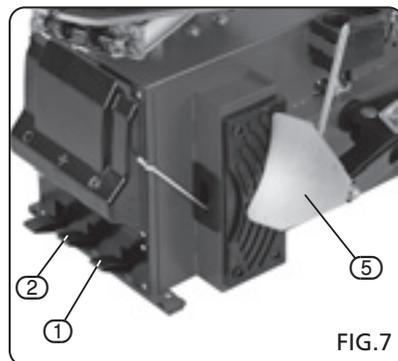

FIG.7
9.2 BEAD BREAKING (FIG.7).
9.3 UNMOUNTING (FIGS.7, 8 – 9).
- Lower the locking lever (9) to unlock the vertical rod (8.1).
- Press the open/close control pedal (2) to prepare the locking wedges (12) to lock the rim externally (in the case of internal locking, this operation is not carried out).
- Place the wheel on the self-centring turntable (12.1), pressing lightly on the wheel. Press the open/close control pedal (2) to lock it.
- Move the head (8) close to the rim so that the roller (11) and the rim edge surface touch.
- Raise locking lever (9): in this way the vertical spacing of the head and locking of the vertical rod; the spacing of the head and locking of the arm; the spacing of the tongue is adjusted by acting on the handwheel (10) (3 mm ideal distance:).
- Raise the bead with the tyre lever and hook it onto the tongue of the head (8).